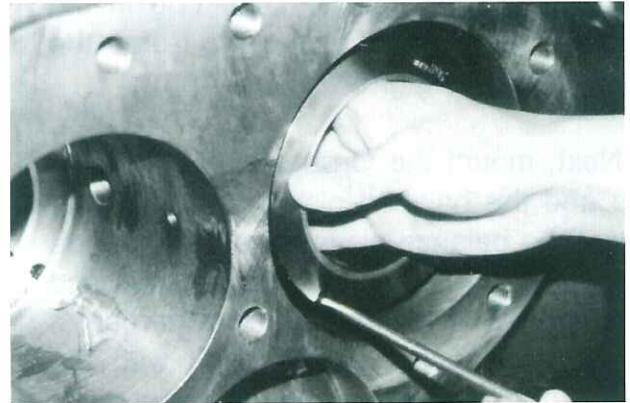

Fig. 101 Side Bearing Assembly Guide
3) Screw in the balance piston sleeve Allen bolt (34) and fix it with the set screw from the rear.
4) Insert the balance piston sleeve snap ring. The O-ring is very tight and the snap ring will not fit easily into the groove. Tap on the O-ring as shown in Fig.101.